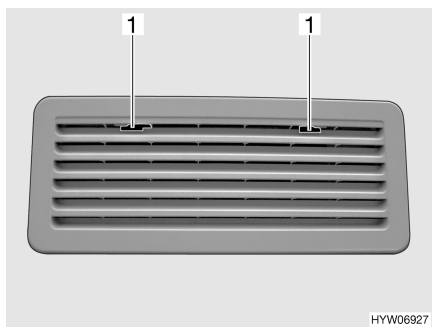
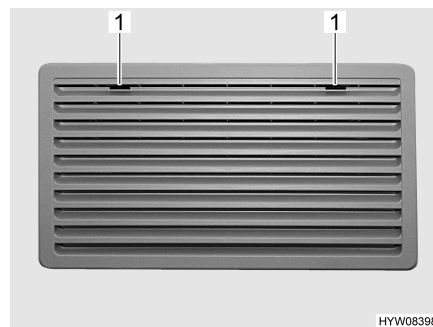

Fig. 62 Refrigerator ventilation grill (Thetford)
Fig. 63 Refrigerator ventilation grill, large (Thetford)
- Move the locking device (Fig. 62,1 or Fig. 63,1) to the middle.